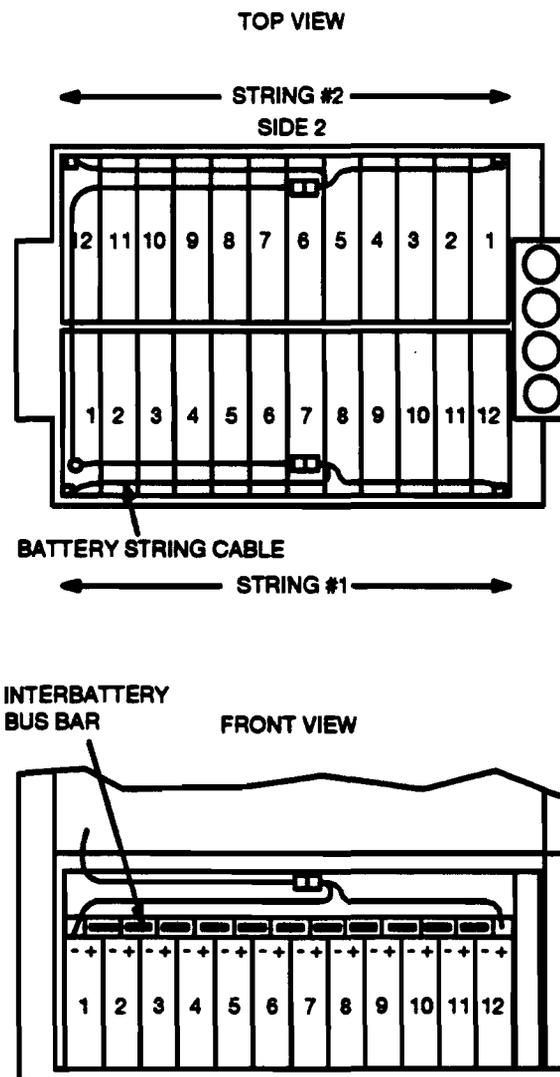

Figure 1 — Layout of Lineage 2000 VR Series batteries in 80A cabinet
8. Place all twelve batteries in the battery compartment as shown in Figure 1.